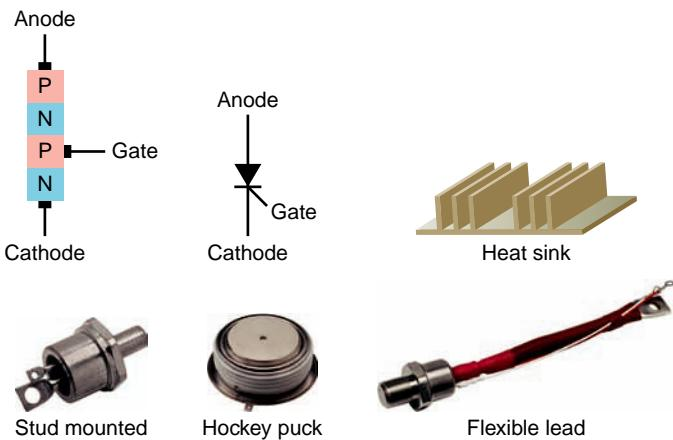

Figure 9-27 Silicon-controlled rectifier (SCR).
Silicon controlled rectifiers (SCRs) are similar to silicon diodes except for a third terminal, or gate, which controls, or turns on, the SCR. Basically the SCR is a four-layer (PNPN) semiconductor device composed of an anode (A), cathode (K) and gate (G), as shown in Figure 9-27. Common SCR case styles include stud-mounted, hockey puck, and flexible lead. SCRs function as switches to turn on or off small or large amounts of power. High-current SCRs that can handle load currents in the thousands of amperes have provisions for some type of heat sink to dissipate the heat generated by the device.